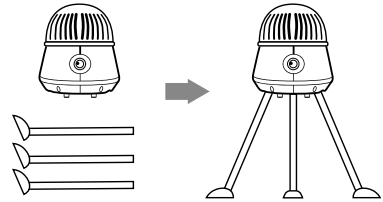

Fig. 1
1. Insert the 3 (I) Dryer Legs into the holes on the base of the (B) Motor Unit (see Fig. 1). Ensure they are all fitted tightly and equally so there is stability. For ease of installation and to prevent damage to the motor unit, hold the (B) Motor Unit upside-down on a soft surface.